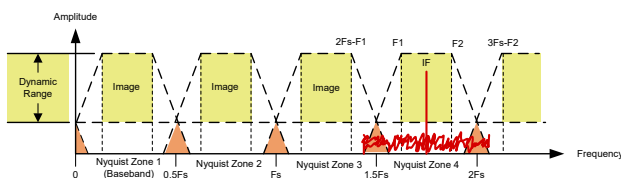

Figure 1. Example of a super Nyquist sample vs. sampling at baseband (first Nyquist).
Super Nyquist sampling, intermediate frequency (IF) sampling and subsampling are popular in many frequency-based applications that employ software-defined radio (SDR) or radar-like receiver architectures (see Figure 1).